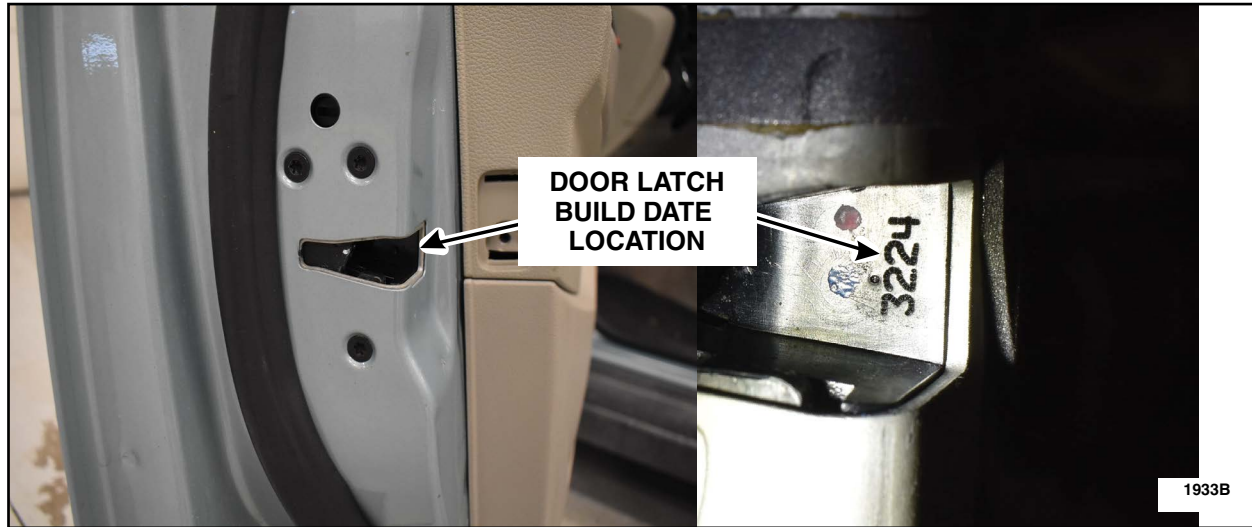

FIGURE 10
4. Once the **new** latches have been installed in the vehicle, record all four date codes of the new latches. Additionally, capture a picture of the date code of each new door latch (four pictures total) showing them installed in the vehicle. These pictures will need to be submitted in the SSSC web questionnaire. See Figure 10.